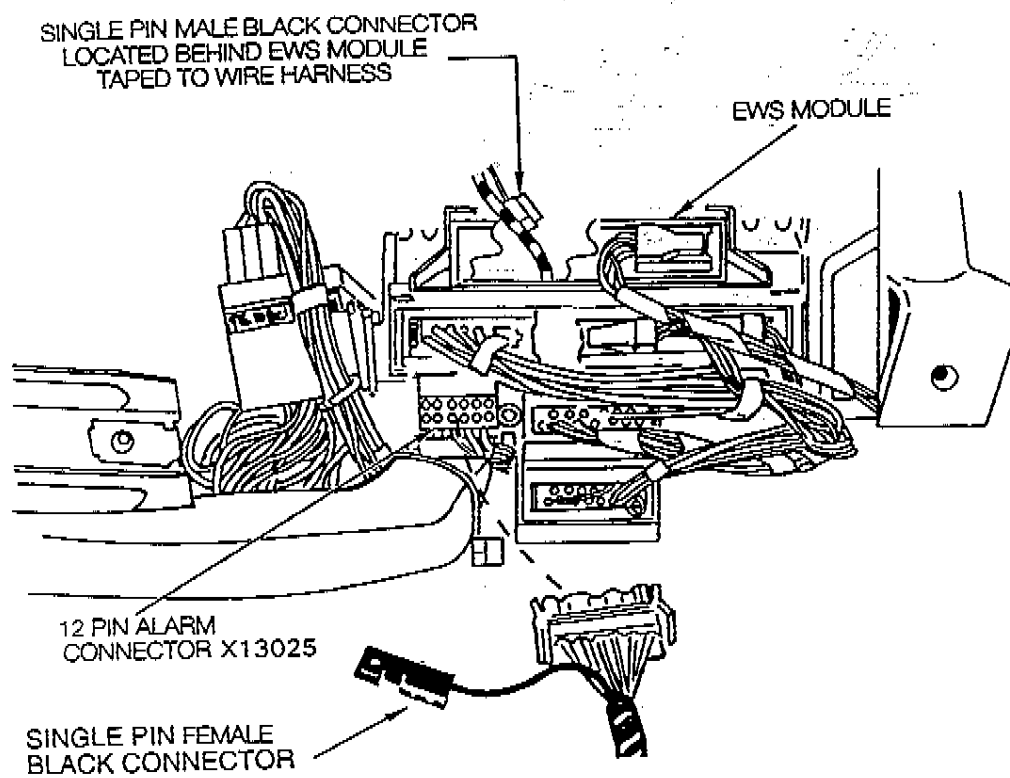

FIGURE 13
2. See Figure 13 . Locate factory installed hood switch connector (single position black Amp male connector) violet/green/yellow wire and connect to the alarm harness single position black AMP female connector.